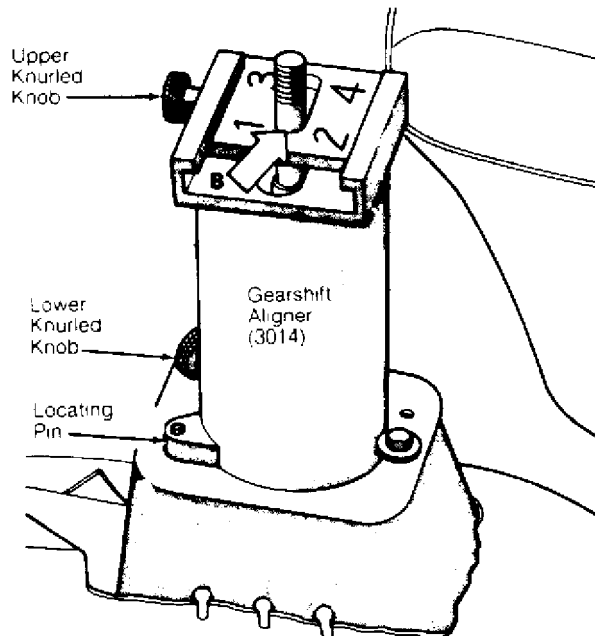

Fig. 6: Installing Gearshift Aligner (Fox)
5) Align centering holes of gearshift lever housing and gearshift lever bearing housing. Tighten bolts. Install Gearshift Aligner (3057) with locating pin in front centering hole of vehicle. See Fig. 6.